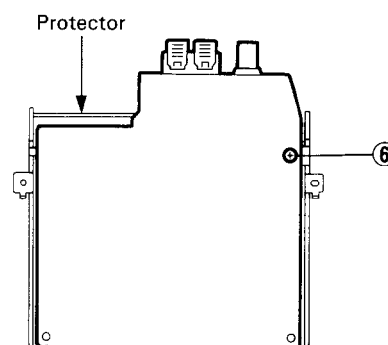

Fig. 7-9
6. From the tuner bracket, remove the one screw (6) retaining the tuner P.C. board using the P.C. board assembly as a soldering surface (Refer to Fig. 7-9).